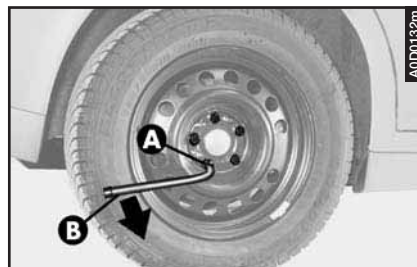

fig. 5
– Using the L-wrench (**B-fig. 5**) provided, loosen the fastening bolts (**A**) by about one turn.
— Using the L-wrench (**B-fig. 5**) provided, loosen the fastening bolts (**A**) by about one turn.